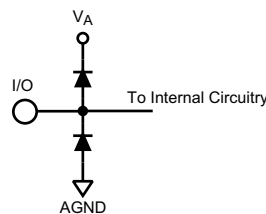

Figure 1.
- (1) The inputs are protected as shown below. Input voltage magnitudes above V_A or below GND will not damage this device, provided current is limited per Note 4 in the Absolute Maximum Ratings table. However, errors in the A/D conversion can occur if the input goes above 2.6V or below GND as described in the Operating Ratings section, see Figure 1.
- (2) With a full scale differential input of 2V_{p,p}, the 14-bit LSB is 122.1 μV.
- (3) Typical figures are at T_A = 25°C and represent most likely parametric norms at the time of product characterization. The typical specifications are not guaranteed.
- (4) This parameter is specified in units of dBFS - indicating the value that would be attained with a full-scale input signal.
- (2) With a full scale differential input of $2V_{P-P}$, the 14-bit LSB is 122.1 μV .
- (3) Typical figures are at $T_A = 25^\circ\text{C}$ and represent most likely parametric norms at the time of product characterization. The typical specifications are not guaranteed.
- (4) This parameter is guaranteed by design and/or characterization and is not tested in production.